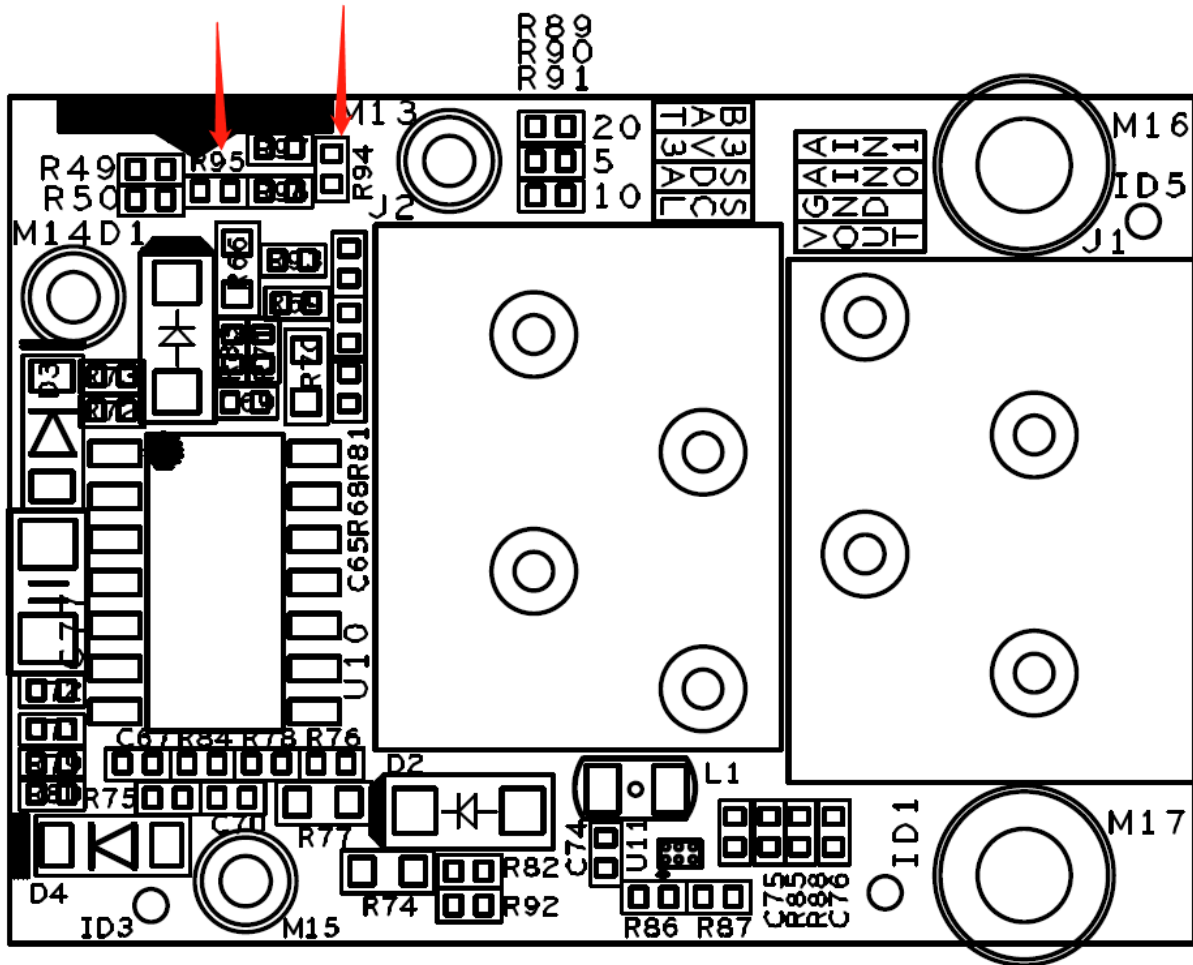

Figure 9: R94 and R95 on RAK5801
- In RAK5801, remove R94 to R95 resistors. Use **PA0 of STM32L151** to read the analog data of the channel "analog0" and **PA2 of STM32L151** to read the analog data of Channel analog1. **Figure 9** shows the resistors R94 and R95 on the RAK5801 module.
- In RAK5801, remove R94 to R95 resistors (see **Figure 9**). Use **PA08 of ATSAMR34** to read the analog data of the channel "analog0" and **PA09 of ATSAMR34** to read the analog data of Channel analog1.